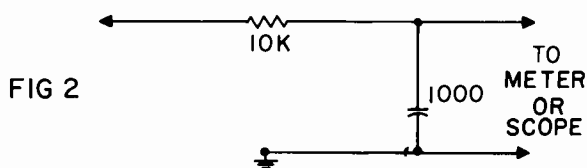

FIG 2
- Connect a DC voltmeter to the grid of the 6AW8A (TV-2), using an isolation network as shown in Fig. 2.
- Connect an oscilloscope to the grid of the 6AW8A (TV-2) using the same isolation network (Fig. 2) as for the voltmeter.